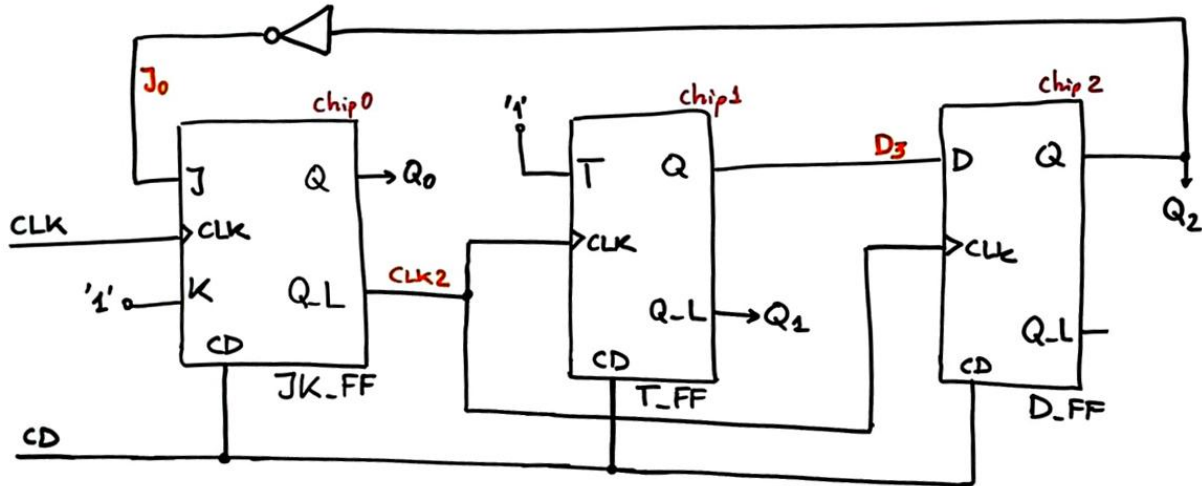

Fig. 1. Asynchronous sequential circuit.
1. Solve the timing diagram of the circuit in Fig. 1 and deduce the sequence of numbers $Q(2..0)$ generated once initialised.